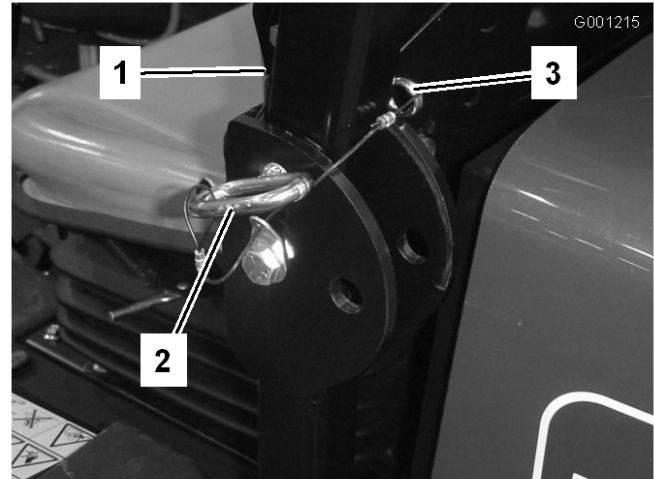

Figure 27
1. To lower the roll bar, remove the hairpin cotter pins and remove the two pins (Figure 27).
3. Install the two pins and secure them with the hairpin cotter pins (Figure 27).
- To raise the roll bar, remove the hairpin cotter pins and remove the two pins (Figure 27).
- Raise the roll bar to the upright position and install the two pins and secure them with the hairpin cotter pins (Figure 27).